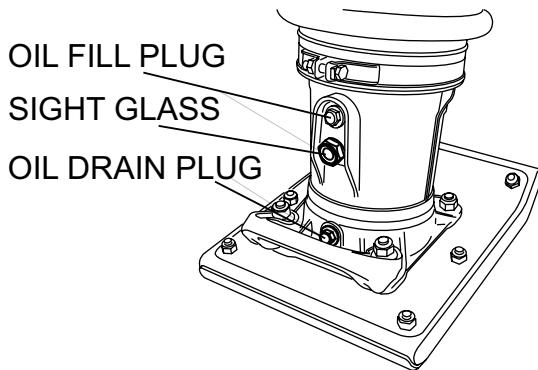

Figure 3. Foot Housing Sight Glass
1. Check the oil level through the oil level sight glass (Figure 3) at the rear of the tamper foot.
2. If oil is not visible, add 10W-30 SE, SF or higher grade motor oil into the oil fill plug opening (Figure 3). The bath contains approximately 1.7 pints (800 cc.)